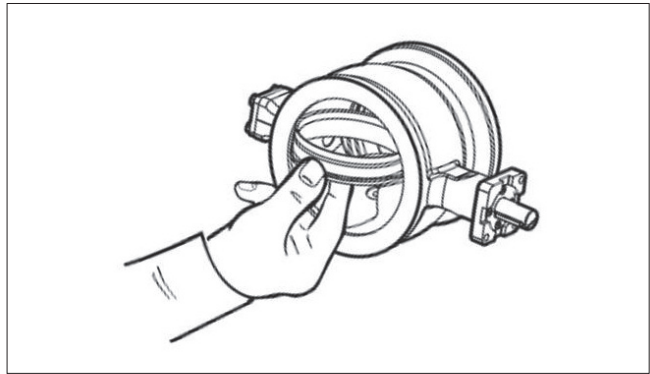

Fig. 24 Lifting the seat
- Turn the valve and lift the seat from the body through the downstream flow port, Fig. 24.